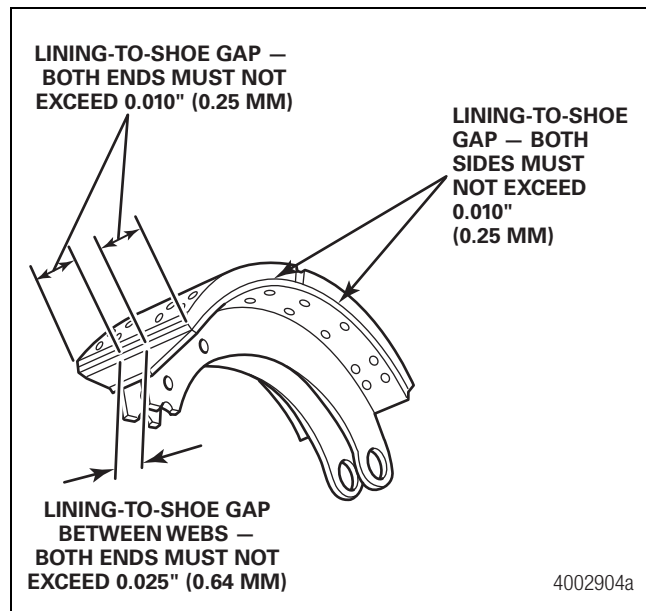

Figure 5.25
5. Check the lining-to-shoe gap. The maximum acceptable lining-to-shoe gap along the sides and ends of the assembly is 0.010-inch (0.25 mm). The maximum acceptable lining-to-shoe gap between webs is 0.025-inch (0.64 mm). Figure 5.25.